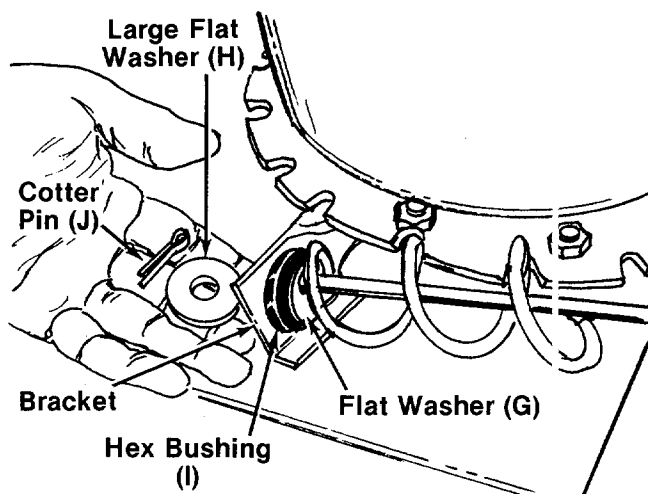

FIGURE 7.
11. Place hex bushing (I) into bracket beside the chute assembly. Position the hex bushing so the hole in the bushing is close to the chute assembly. See figure 7.
12. Place flat washer (G) on the end of the chute crank. Insert the chute crank into the hole in the hex bushing so that the spiral on the chute crank engages the teeth on the chute assembly. Place large flat washer (H) on the end of the chute crank. Insert cotter pin (J) into hole in the end of chute crank. Secure by bending the ends of cotter pin in opposite directions.